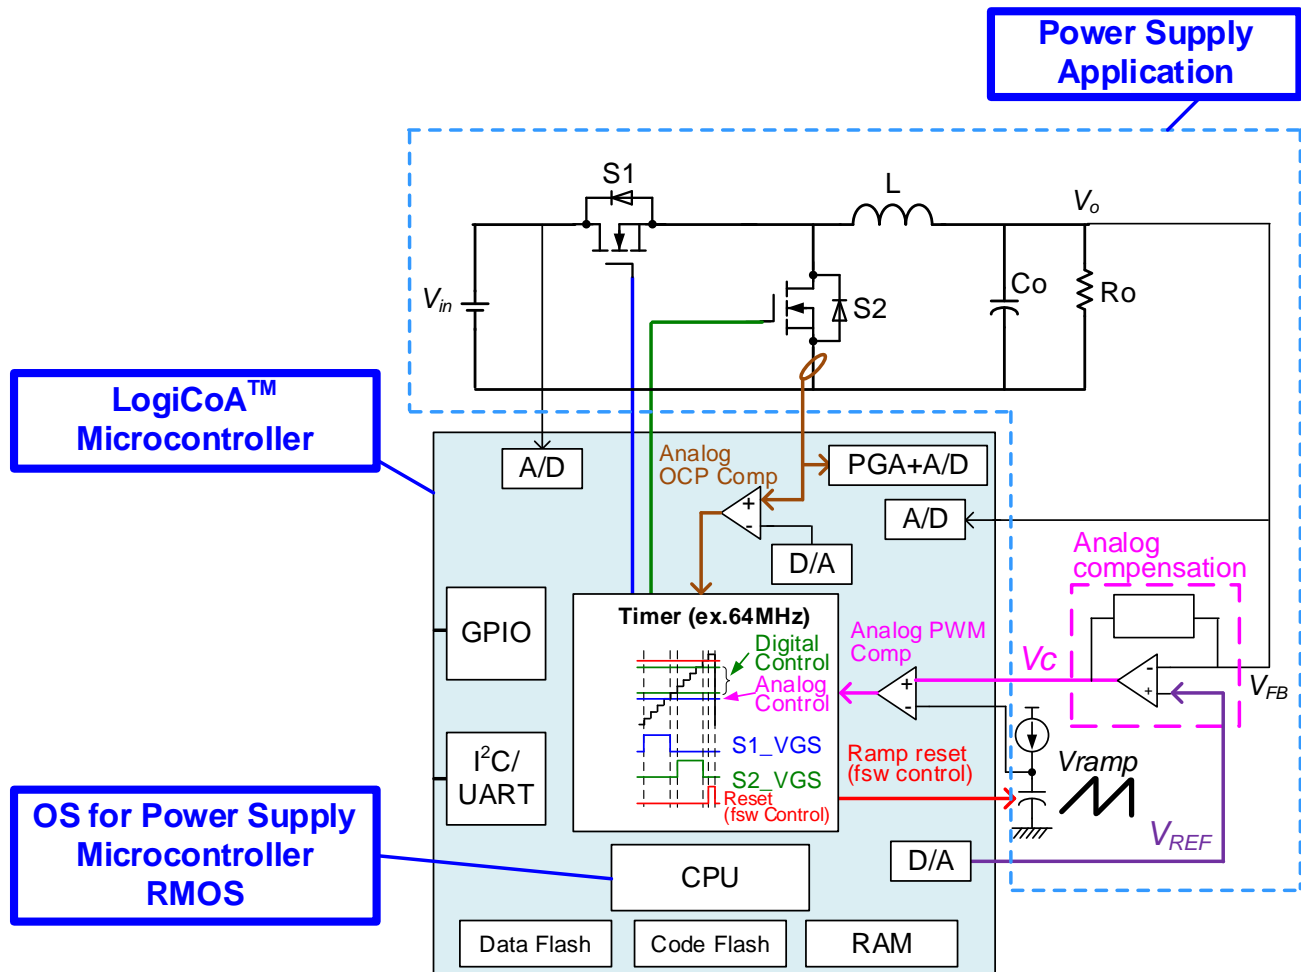

Figure 1-1. System overview of LogiCoA™ Power Solution
Figure 1-1 shows the overview of LogiCoA™ Power Solution. LogiCoA™ Power is a solution adopting analog-digital hybrid control to a switching power supply and consists of 3 elements, (1) Microcontroller for Power Supply Control (LogiCoA™ Microcontroller) ML62Q203x/ML62Q204x (hereinafter referred to ML62Q20xx group), (2) Operating System for Power Supply Control Microcontroller, RMOS, and (3) Power Supply Application. Refer to the explanation application note [2] for detail information of analog-digital hybrid control.